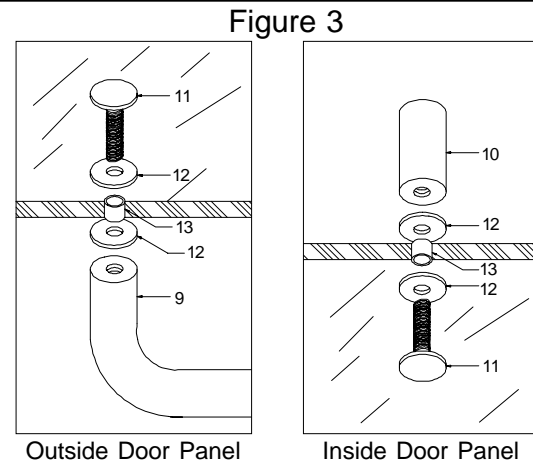

Figure 3
8. To install towel bar (9), place nylon towel bar insert sleeves (13) into holes in the glass (17). Next, hold the tubular towel bar (9) against the hole in the glass with the nylon towel bar/pull washer (12) between the glass and the towel bar. Place a nylon towel bar/pull washer on the towel bar/pull screw (11) and secure towel bar in place on both ends. Install the pull the same way the towel bar was installed. Use hole in fastener to tighten (See Figure 3).
10. Secure bumpers (4) in place with a 6-32 x 1/2" MS screw (5). **NOTE:** Glass panels close into the recessed portion of the bumpers. The recess is toward the inside of the tub on the showerhead jamba, and toward the outside on the other jamba. From inside of unit, drill #31 holes through header and into wall jamba, 11/16" from bottom of header. Secure header to wall jamba with two 6-32 x 3/8" MS screws (19).